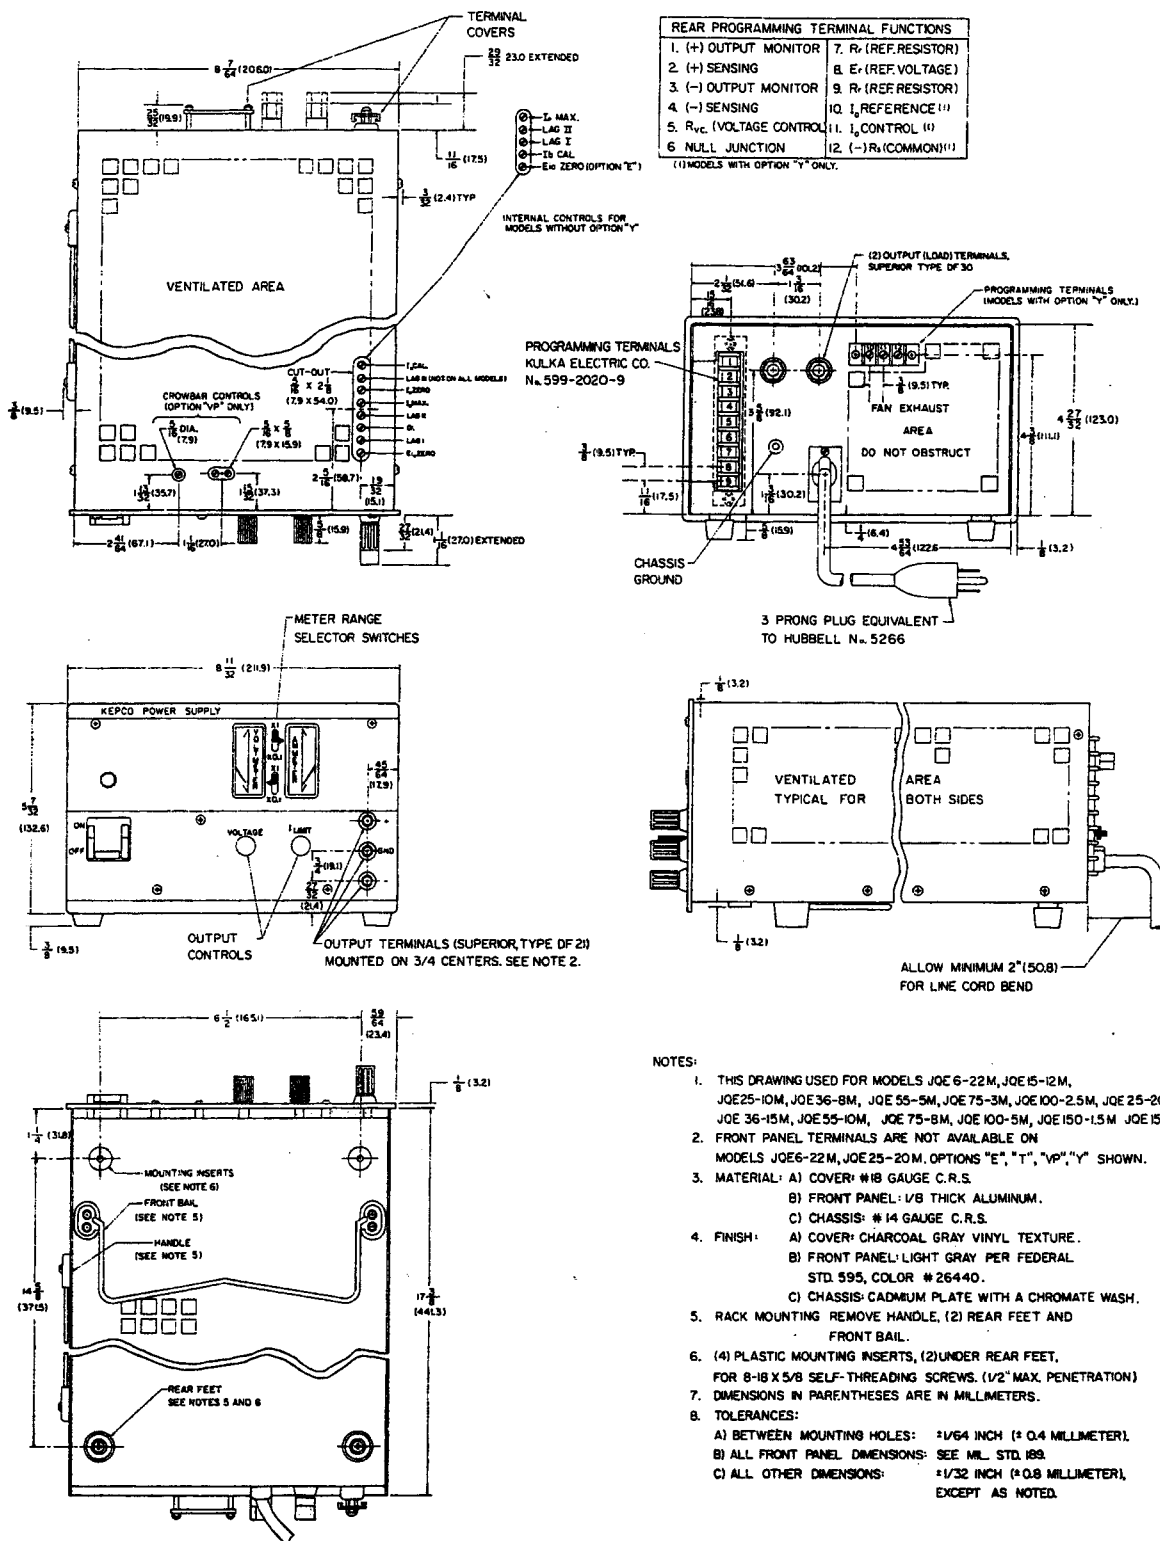

FIG. 1-3 MECHANICAL OUTLINE DRAWING
- a) **DIMENSIONS AND FINISH:** Please refer to the "Mechanical Outline Drawing," FIG. 1-3.
2-10 INSTALLATION (Refer to FIG. 1-3 "Mechanical Outline Drawing")